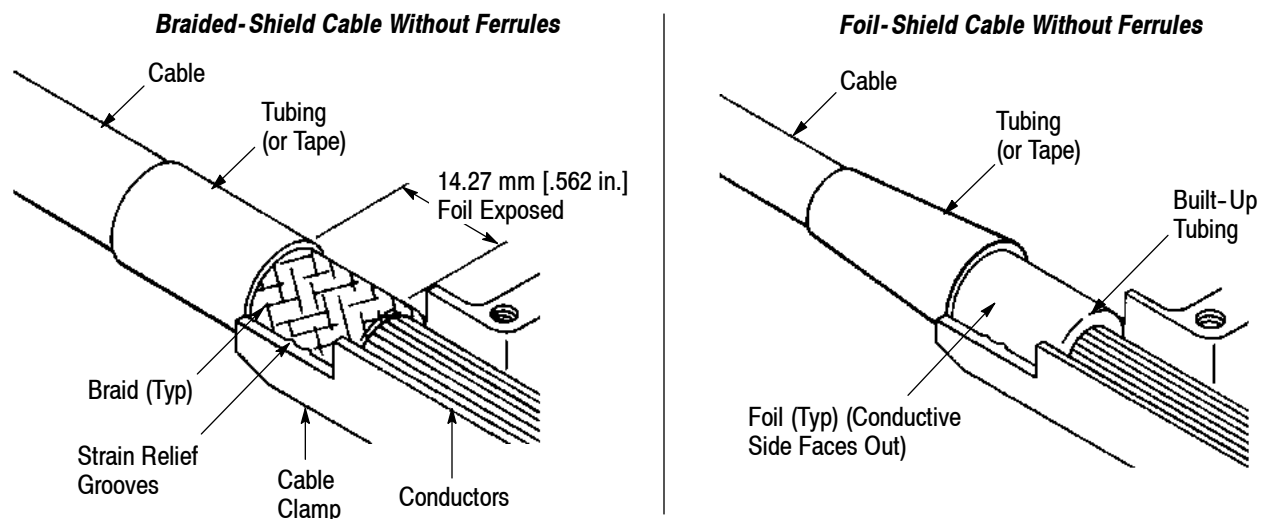

Figure 4
3. Secure the ends of the foil and drain wire with tape or heat-shrinkable tubing until the cable clamps are installed. Leave 14.27 mm [.562 in.] of the foil exposed between the tape or tubing and conductors. See Figure 4.